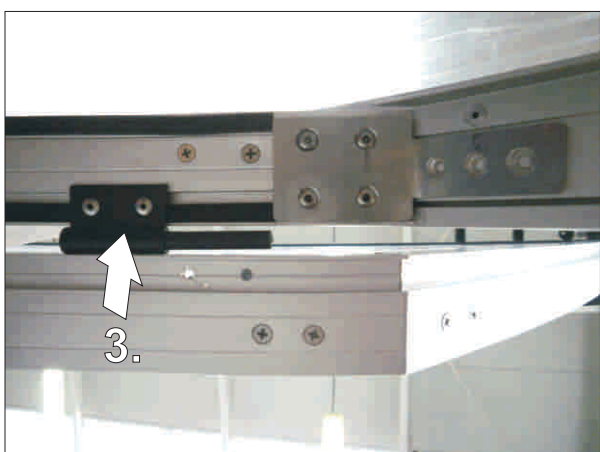

Fig. 7.3b
3.) Take a look at last hinge, which is not complet, view from below, see picture fig. 7.3b !!!